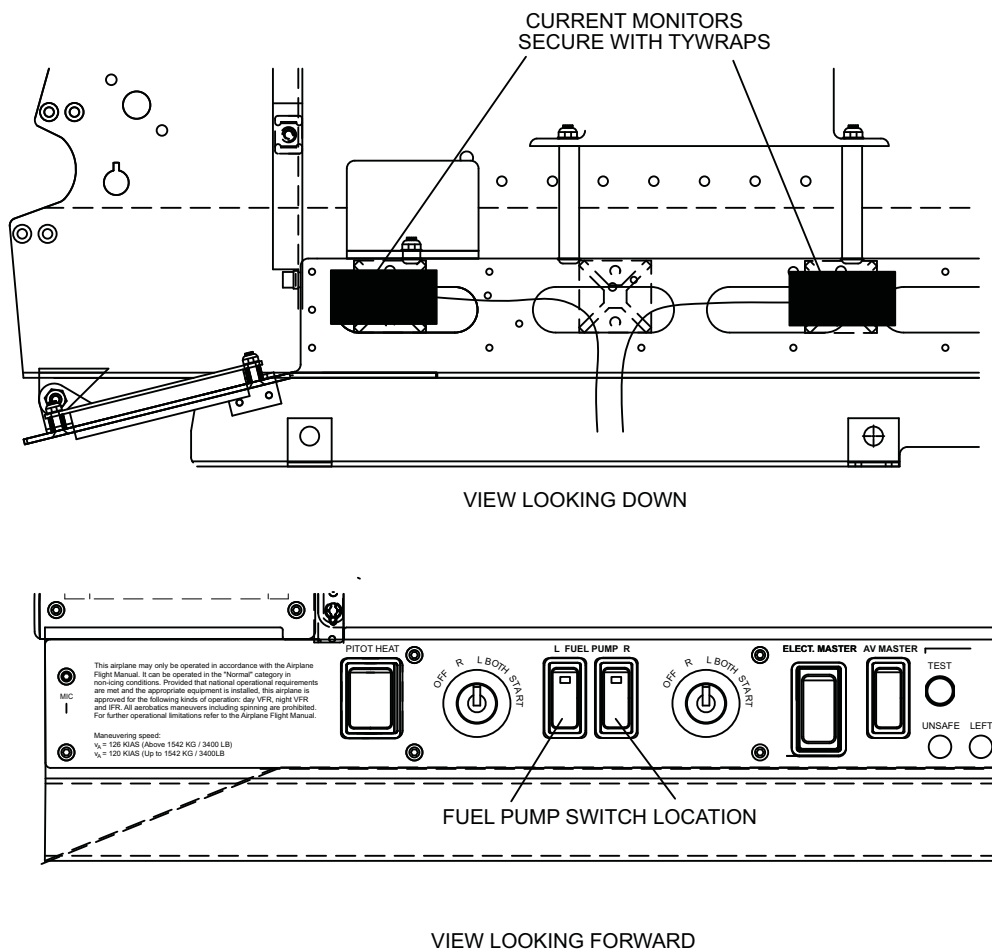

Figure 2 - Physical Locations of Components
- 10.11 Secure the Current Monitor Assemblies (P/N C61-2428-107-001) provided to the existing instrument panel harness with tywraps (See Figure 2).
- 10.12 Route the Current Monitor wires to the FUEL PUMP switches (See Figure 2).